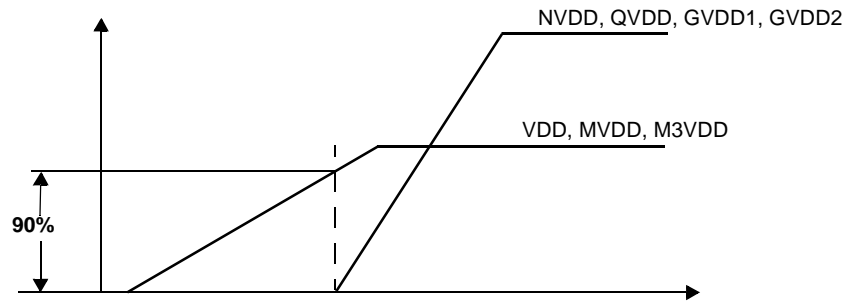

Figure 34. Supply Ramp-Up Sequence
- After the above rails rise to 90% of their nominal voltage, the following I/O power rails may rise in any sequence (see Figure 34): QVDD, NVDD, GVDD1, and GVDD2.